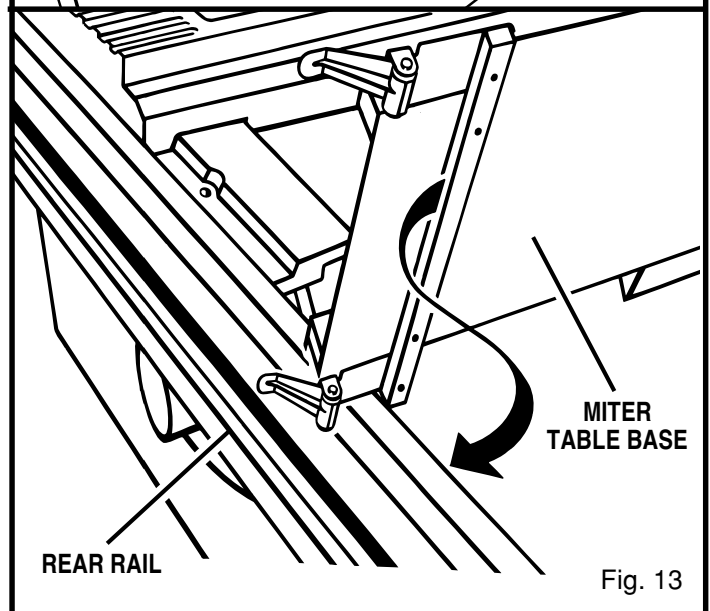

Fig. 13
See Figures 13 and 14.
- Install the sliding miter table assembly over the front and rear rails. See Figure 13. Check that it slides easily on the rails. Push both front miter locking clamps down evenly on each side to secure. Repeat for both rear miter locking clamps.